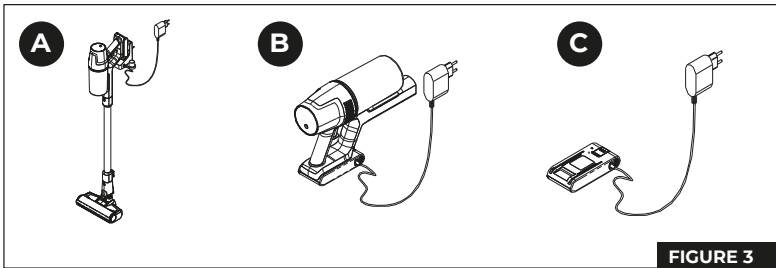

FIGURE 3
1. **Plug in the Charger:** Plug the charger into a power outlet in any of the ways described below (IMAGEN3).